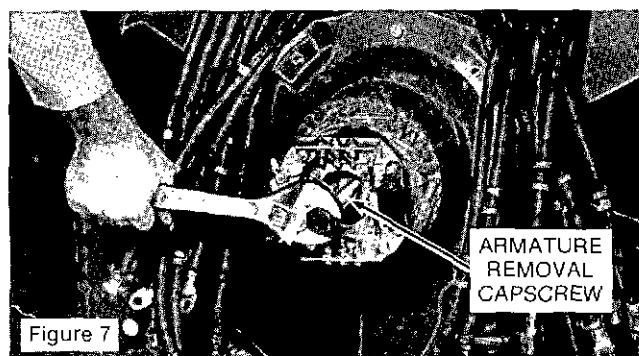

Figure 7
4. Remove the capscrew and belleville washer which holds the exciter (rotor) armature to the generator shaft. Use a six inch, 3/4 - 16NF capscrew threaded into the aluminum standoff plate to push against the end of the shaft. (See Figure 7.) Carefully feed the leads through the lead hole in the aluminum standoff plate as the armature is removed.